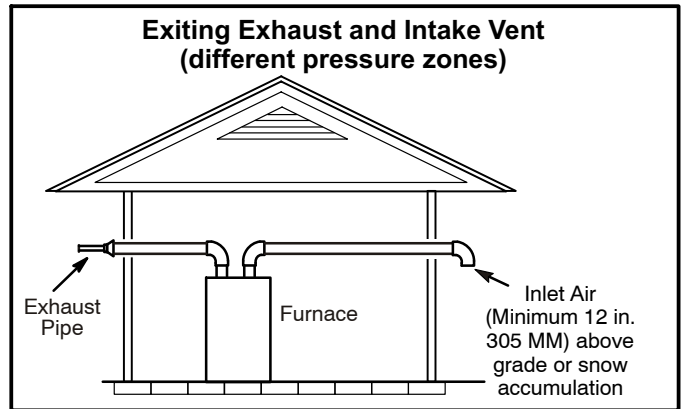
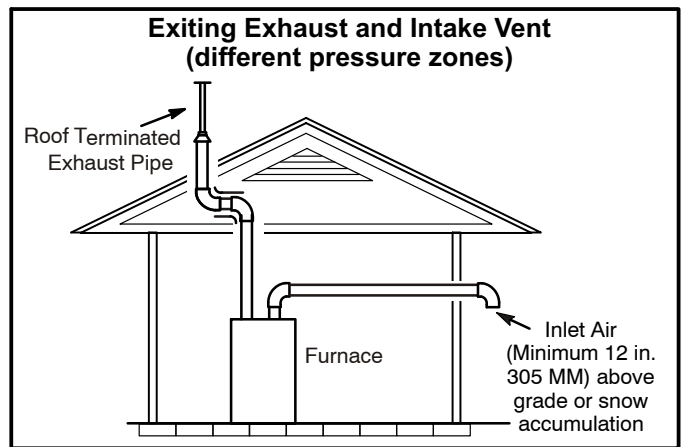

FIGURE 35
FIGURE 36
1. Intake and exhaust terminations are not required to be in the same pressure zone. You may exit the intake on one side of the structure and the exhaust on another side (figure 35). You may exit the exhaust out the roof and the intake out the side of the structure (figure 36).